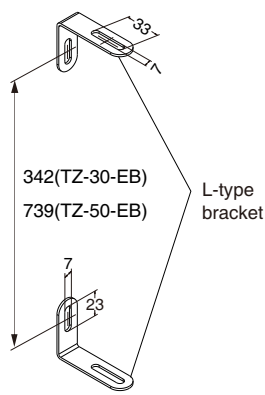

Fig.1
1. Mount the supplied top and bottom mounting brackets to the mounting surface as shown in Fig. 1.